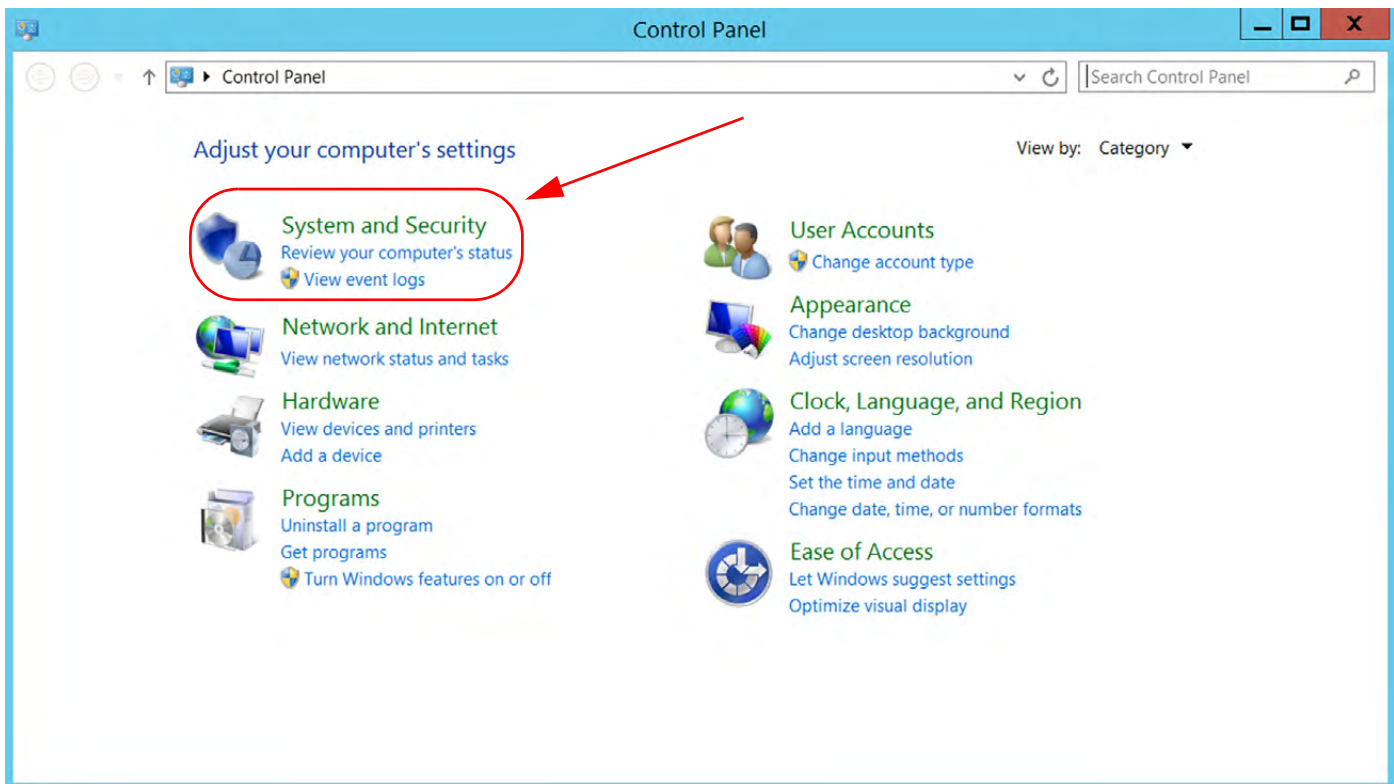

Figure 3.2: Windows Server 2012: Control Panel -> System and Security Screen
2. From the Control Panel, select the “Systems and Security” screen. See Figure 3.2.